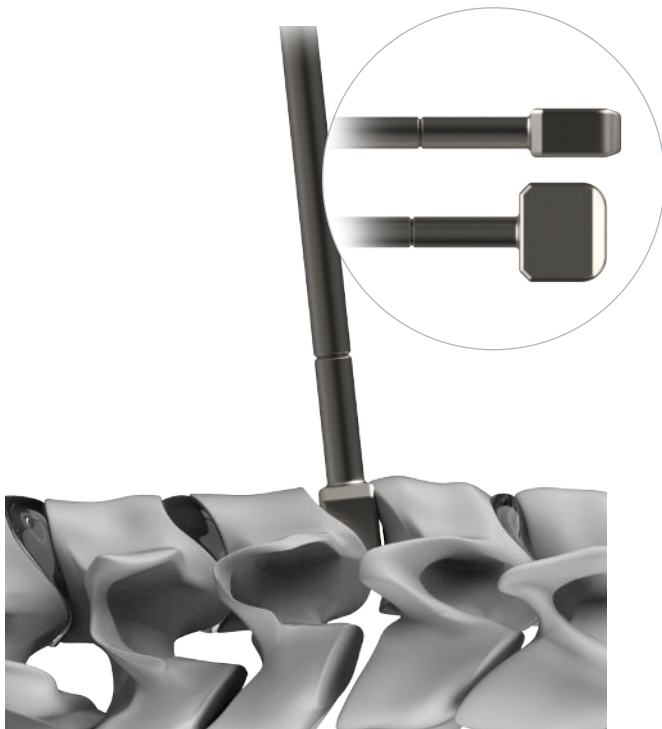

Figure 5
- Selection of the trial depends on the height, width, and depth of the intervertebral space. Based on preoperative imaging and surgical technique, select a trial of appropriate height (Figure 5).